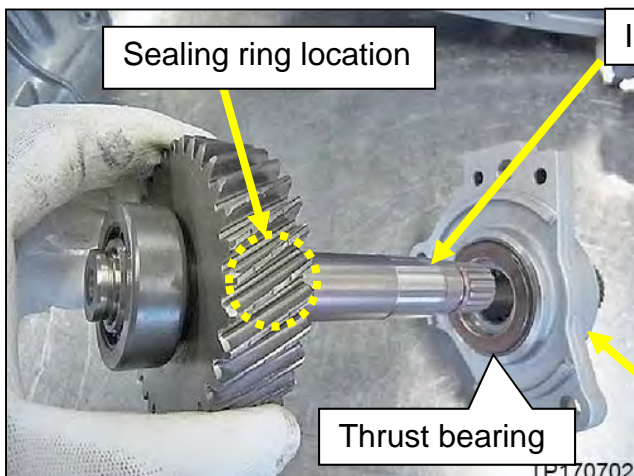
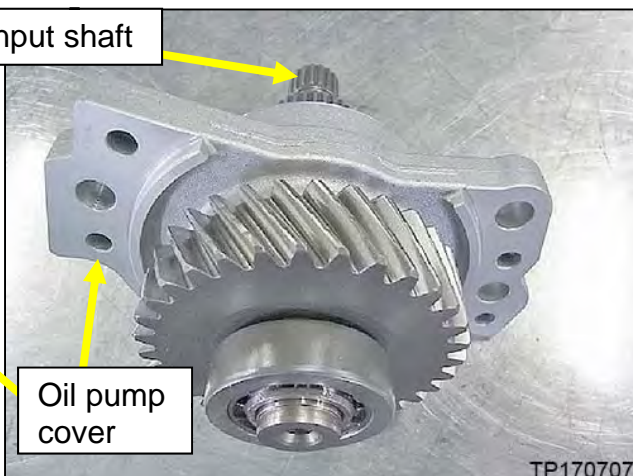

Figure 126
Figure 127
- h. Insert the input shaft into the oil pump cover (Figure 126 and Figure 127).
- The sealing ring is hidden behind the input gear in Figure 126.